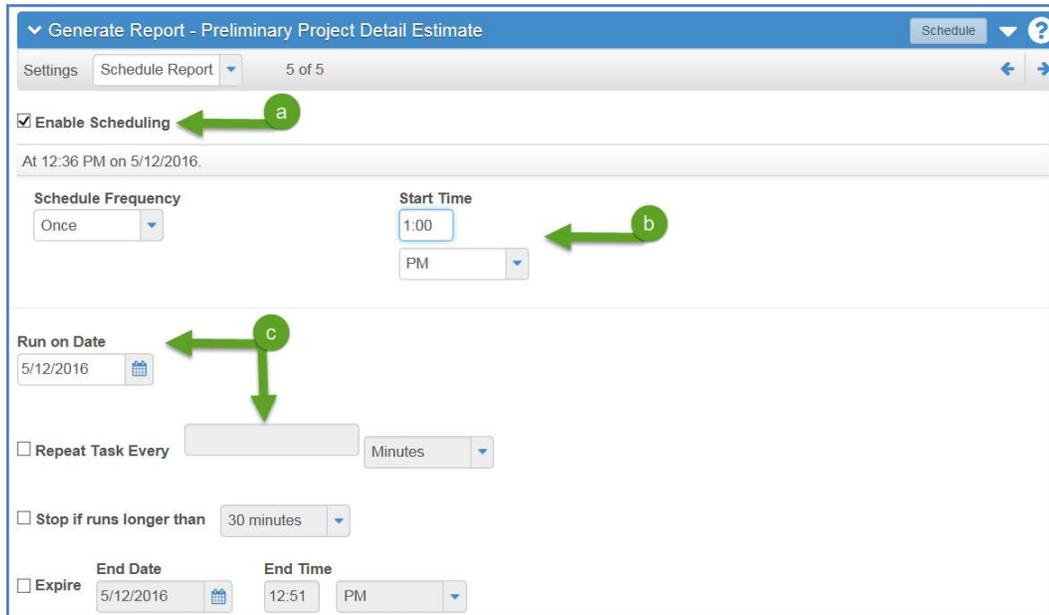

Figure 19
6. If the option to schedule the report was selected, complete the required fields below (Figure 19).